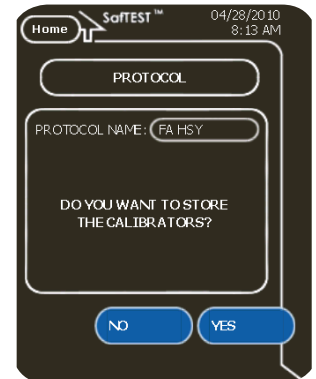

Figure 2. FASTD store calibrators screen shot.
- At the “DO YOU WANT TO STORE THE CALIBRATORS” prompt, select “YES” (Figure 2).